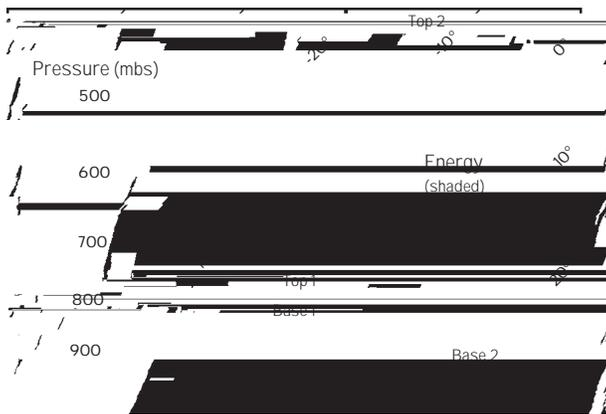

Figure 3 Skeleton tephigram to illustrate how dew point changes can alter cumulus size.
Figure 3 below shows (A) internal flashes; (B) a cloud to ground strike and (C) a series of strikes from different parts of the cu-nim. Strikes in the rain shaft are normally negative; others may be either. The surprising item is a strike well away from the main cloud mass coming from the anvil on the right. This is usually positive.
Figure 3 shows the effect of increasing the dew point. The thick line shows the environmental temperature measured before dawn. DP1 is a low dew point and T is the